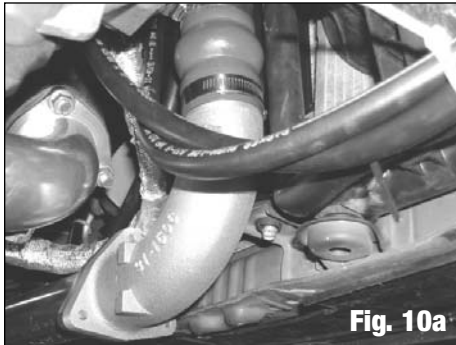
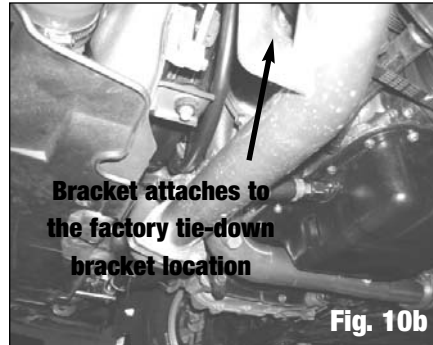
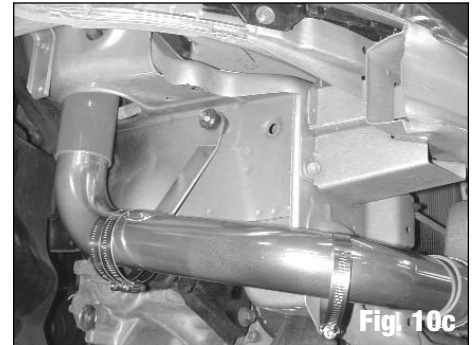

Fig. 10a
Fig. 10b
Fig. 10c
5. Attach Compressor Outlet Pipe to the compressor outlet using the supplied silicone connector and the appropriate hose clamps. The outlet of the compressor outlet pipe should face toward the driver's side of the vehicle (**See Fig. 10a**). Attach the intercooler inlet pipe to the compressor outlet pipe using the three 8mm x 1.25 (25mm long) bolts, O-Ring (Use a bit of grease on the O-Ring to hold in place), and the three 8mm split lockwashers (**See Fig. 10b**). Attach the intercooler inlet pipe to the intercooler using a 2 1/4" to 2 1/2" silicone coupling and the appropriate hose clamps. Attach the bracket on the intercooler inlet pipe to the factory tie-down bracket location (which was removed earlier) using the factory bolt (**See Fig. 10b**). Attach the intercooler outlet pipe to the intercooler with one of the 2 1/4" to 2 1/2" silicone couplings and the appropriate hose clamps. Bolt the support bracket on the pipe to the inner fender using one of the factory lower airbox bolts (**See Fig. 10c**).